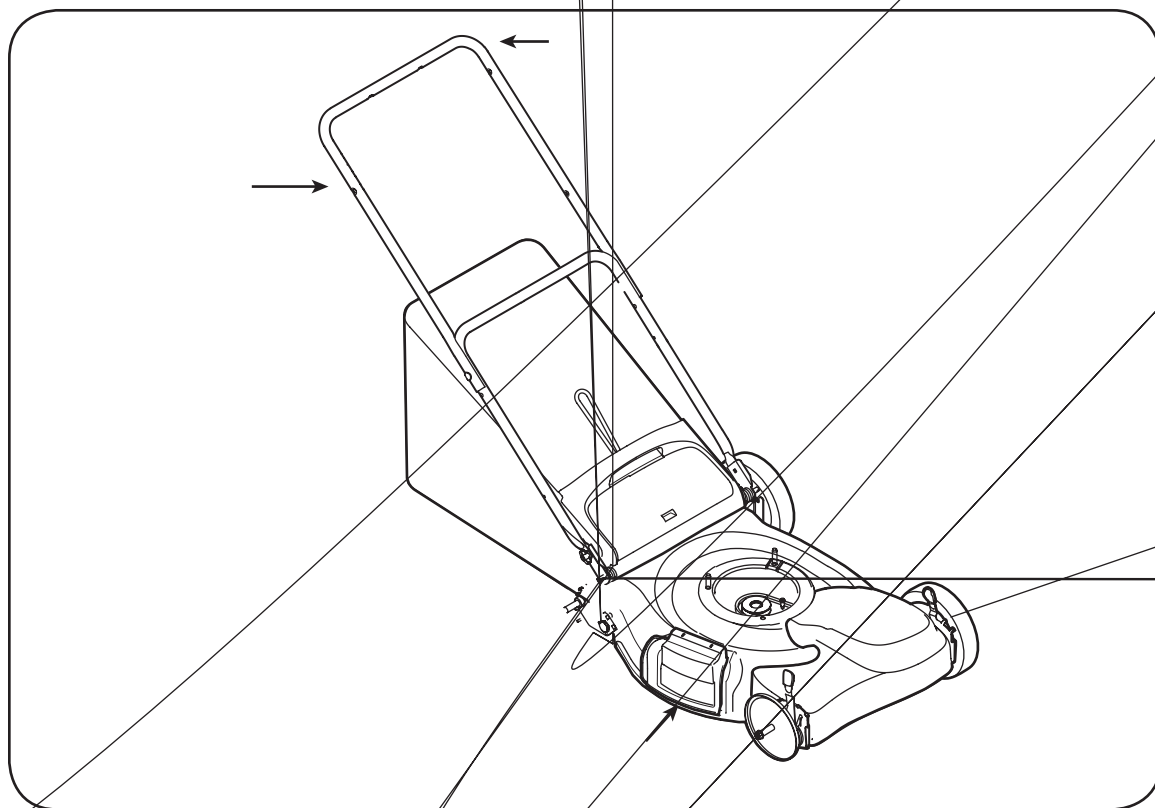

Figure 4-1
The blade control handle is located on the upper handle of the mower. See Figure 4-1. The blade control handle must be depressed in order to operate the unit. Release the blade control handle to stop the engine and blade.
3. **Electric Start (If Equipped):** Turn ignition key to the right to start the engine. See Figure 4-1. Release the key after the engine starts.